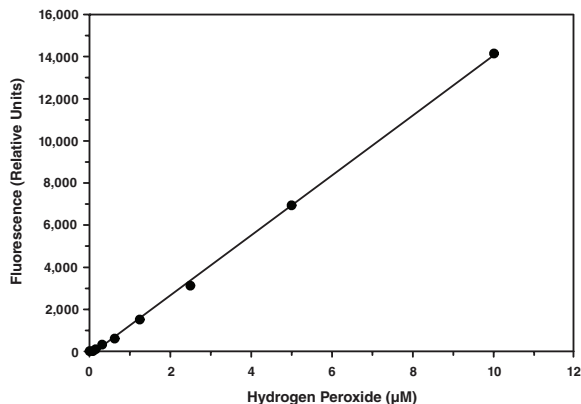

Figure 1. Example H_2O_2 standard curve
3. Plot the corrected fluorescence of the standards (from step 1 above) as a function of the final H_2O_2 concentration (μM). See Figure 1 (below) for a typical standard curve.